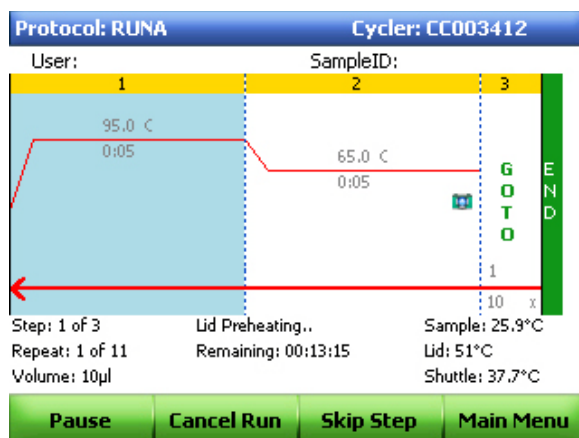

Figure 45. Monitoring run status.
- **Status.** Press the **STATUS** command key to check the current status of the protocol, pause the run, cancel the run, skip a step, or access the main menu (Figure 45)